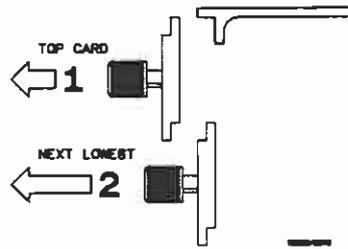

Figure A-1. Endplate Overhang
- c. Starting from the top, begin pulling card(s) and filler panel(s) out half way. See figure A-1.